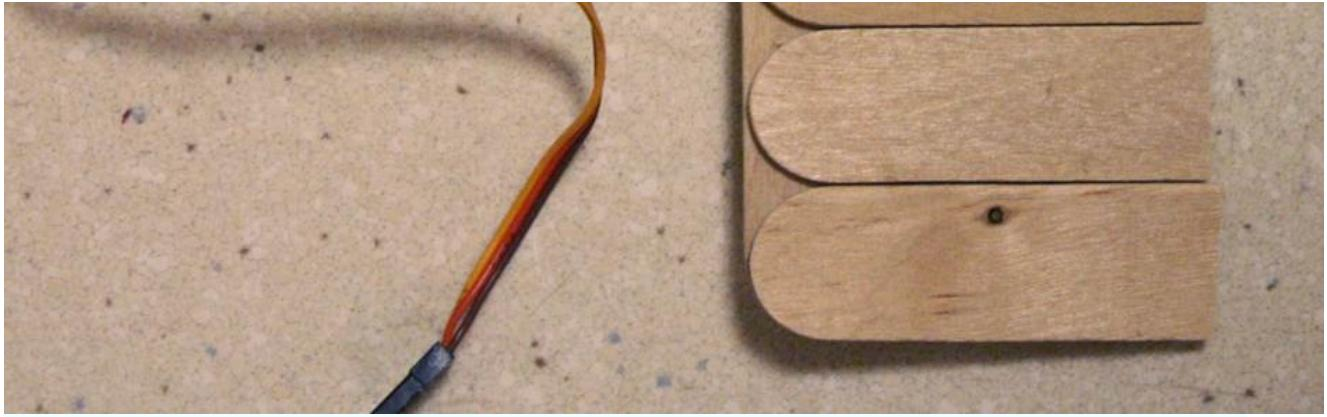

Figure 3-26. Rudder and servo
3. Take the end of the rudder that does not have the fin, and glue this to the rotating piece at the end of the servo. Your servo probably came with multiple attachments. You may want to use one of the longer ones so that you can position the rudder a bit further away from the boat, as shown in Figure 3-26.